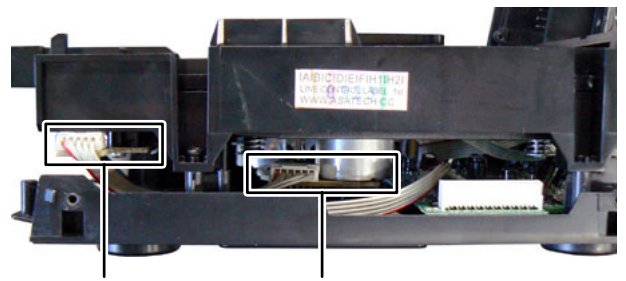

Fig.9
- (2) Disconnect the connector wire from CD board connected to connector of the Loader board. (See Fig.9)
- (3) Disconnect the connector wire from CD board connected to connector of Mechanism board. (See Fig.9)